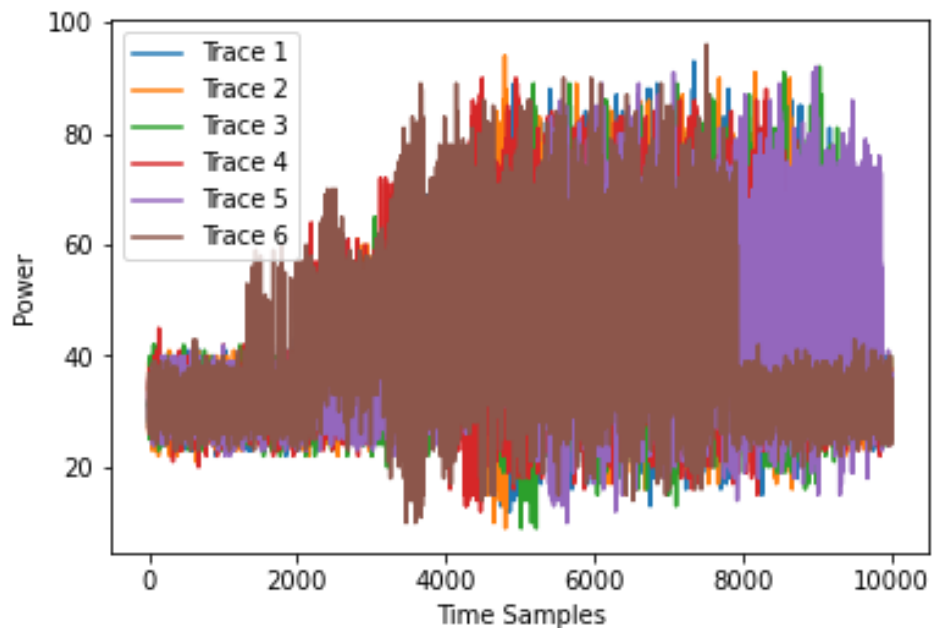
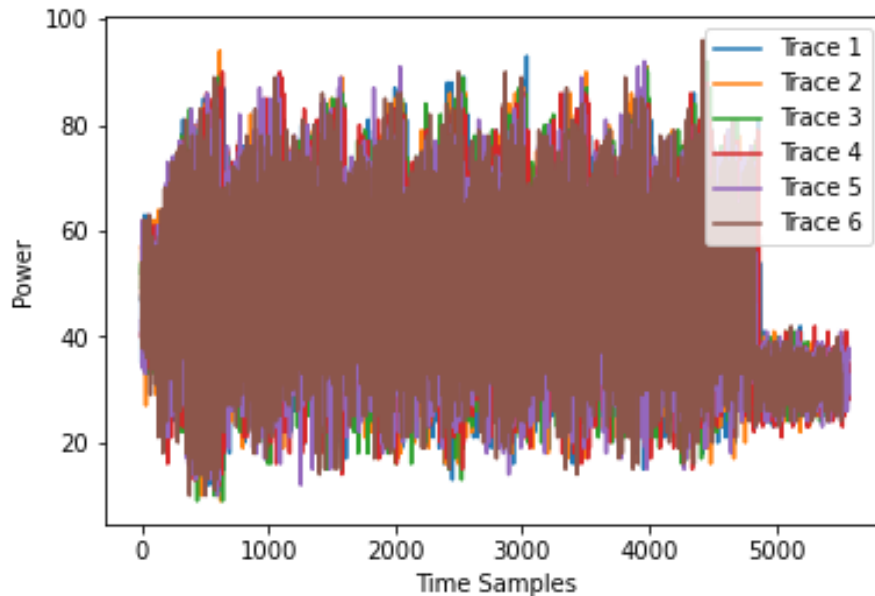

Figure 12: Misaligned traces returned by the SC receiver will be aligned prior to analysis.
Figure 13: The aligned traces will be used in an SCA attack.
- 2) The second phase requires removing trace misalignment. All collected traces will have a variable amount of misalignment added before the AES operation is performed that must be removed. Aligned traces should be sent to the organizers. Figure 12 shows several traces with a variable amount of misalignment added before the signal of interest. *Submissions posted in the team's slack channel with an @organizers tag should include at least 5 traces plotted overlaid in different colors, similar to Figure 13.*
Figure 13 shows those same traces with the misalignment removed. Teams can deal with misalignment however they choose.